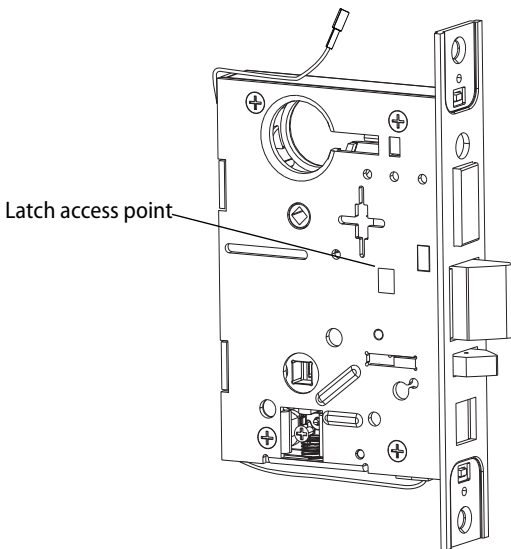

Figure 5 Rotating the latchbolt
- 2 If you need to rotate the latchbolt, insert a flat blade screwdriver into the latch access point approximately 1/2" (13 mm) into the case and press to extend the latch out of the case. See Figure 5.